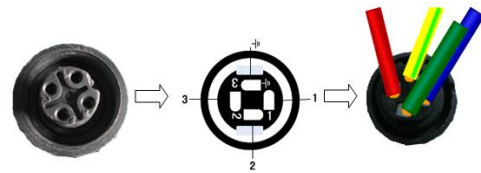

Fig. 15 Connection details
- Insert the bared wires ends as per the fig. 15